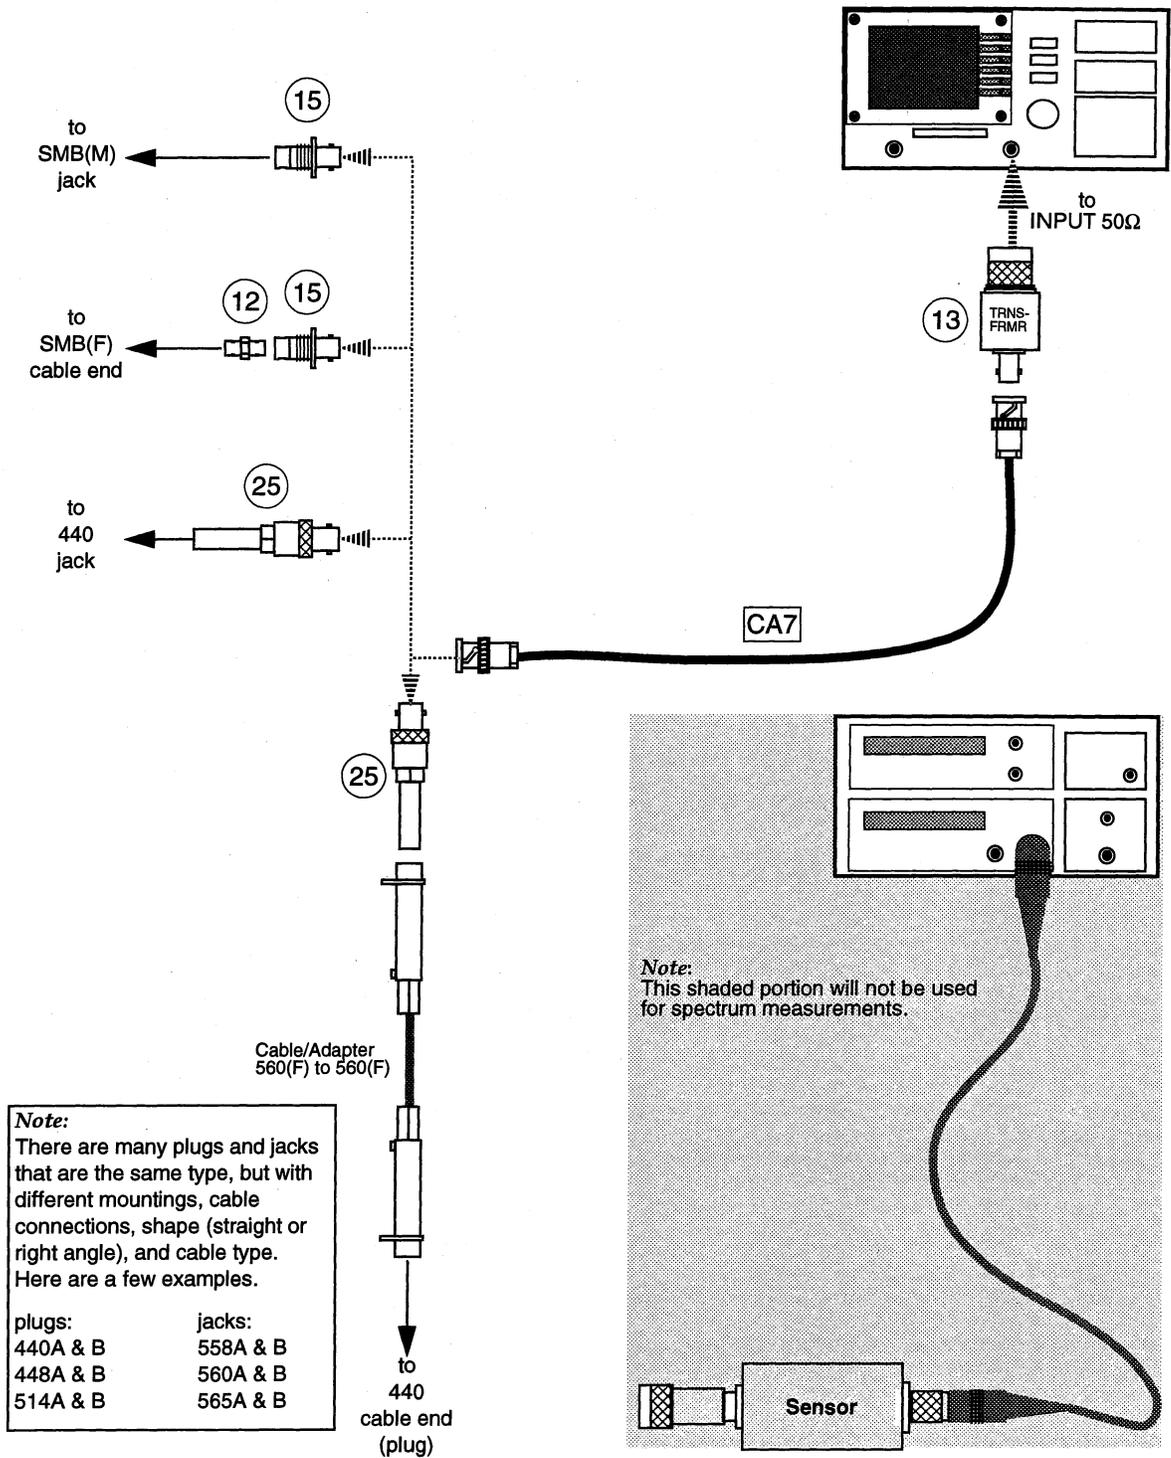

Figure 34. IF Spectrum Measurements
This procedure can be used to condition the DRTS spectrum analyzer for IF spectrum observations. Figure 34 illustrates IF test connections for observations at the following points:
2	<p>Connect the test equipment as shown in Figure 34 for the desired test connection.</p>
1	<p>Perform Steps 1 and 2 of Test Procedure 5.2 IF Spectrum Measurements to condition the Spectrum Analyzer as follows:</p> <ul style="list-style-type: none"> a. Center frequency = 70 MHz. b. Resolution bandwidth = 100 KHz. c. Video bandwidth = 3 KHz. d. Test cable connection to a SMB(M) jack (see Figure 34). <p style="text-align: center;">Reference: 5.2 IF Spectrum Measurements, Steps 1 and 2.</p>